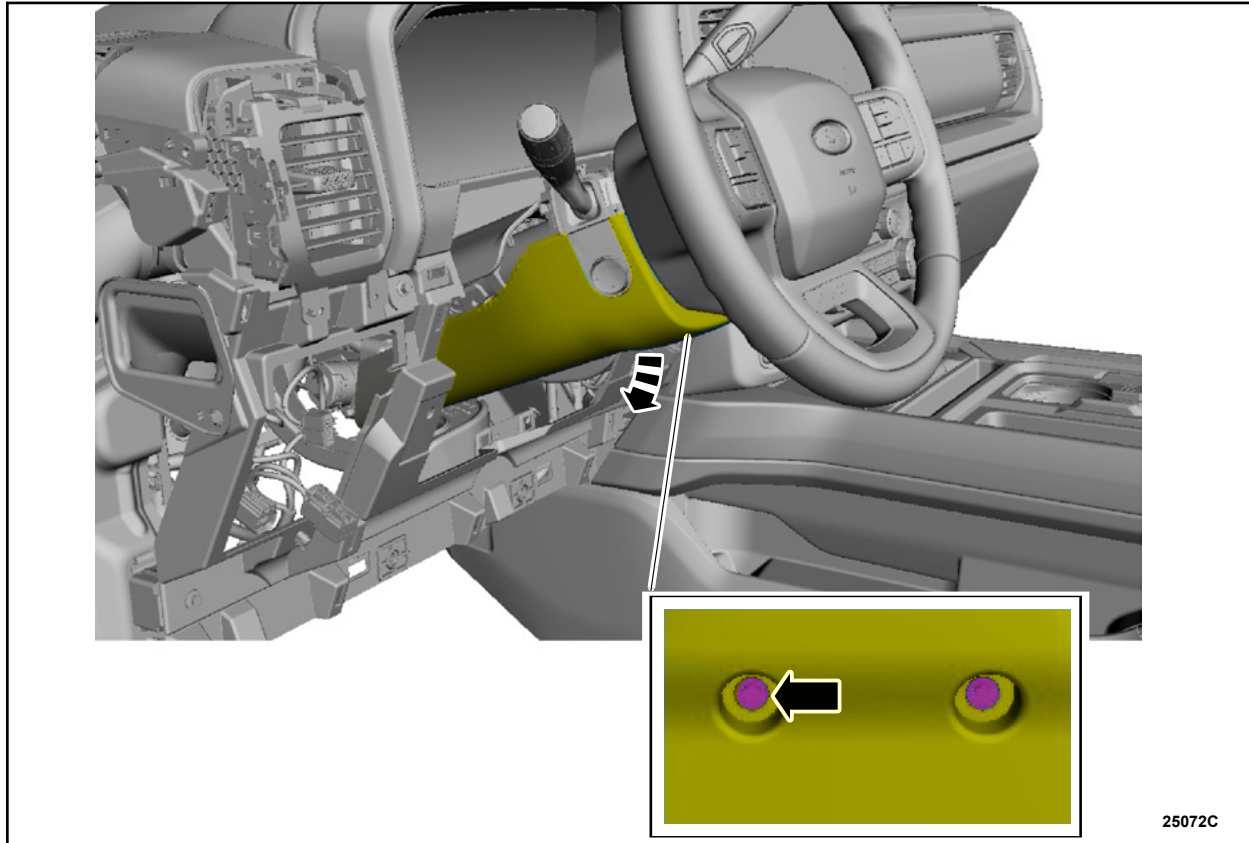

FIGURE 5
5. Remove the two bolts shown in Figure 5 and carefully lower steering column shroud.